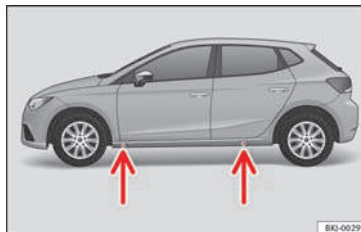

Fig. 68 Jack position points.
- Find the support point on the strut (sunken area) closest to the wheel to be changed»» Fig. 68.